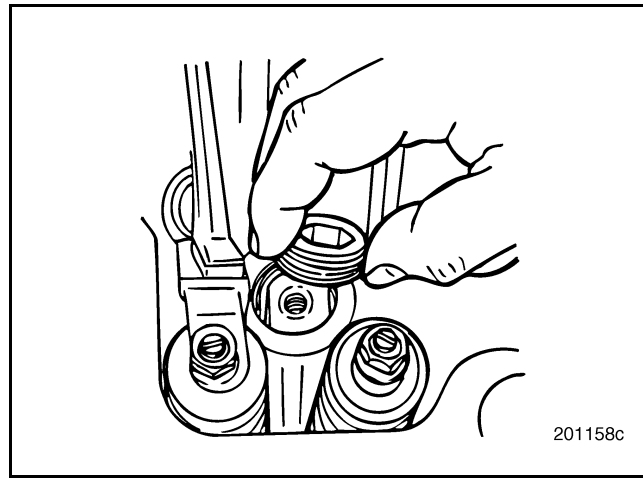

Figure 285 — Retaining Plug Installation
8. Lubricate the threads of the retaining plug and install it as shown in Figure 285. Tighten the plug to the specified torque, 45 lb-ft (61 N•m), using torque wrench J 24407, or equivalent.